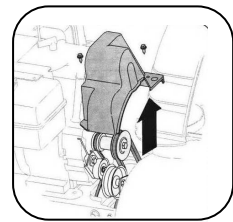

Figure 20
1. Remove the belt cover in the front of the engine by removing the two self-tapping screws. See Figure 20.